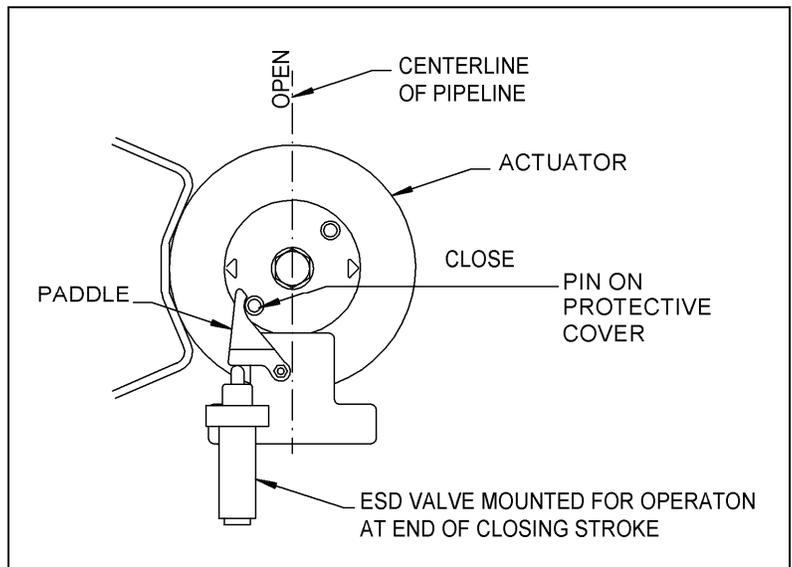

Figure 12: Actuator In CLOSE Position
7. The Actuator will stroke to the end of the stroke as designed (see your schematic for position). This is where the Limit Valve should operate (see Figure 12).